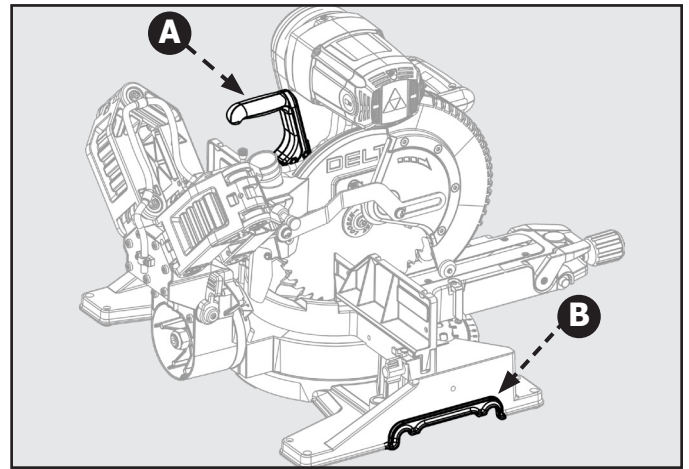

Figure 5
For transportation use the included carry handle (A) as shown in Fig. 5. You may also lift using the cast-in handle cut-outs (B) on both sides of the saw base as shown in Fig. 5.
1. Insert one of the support extensions (F) to the underside of the base at the cast-in handle cut-outs (B) shown in Figure 5.
2. Make sure support extension (F) is flush with the base and inserted into the rounded slots of the cut-outs (B). The rivets (G) are used to ensure the support extension does not slide out of the base during use. Ensure these rivets are positioned on the inside of the base.
3. Place the extension clamp (E) onto the support extension and the screw that is pre-attached to the base.
4. Once the extension clamp (E) is in place, screw the M8 hex nut provided (D) onto the screw.
5. Tighten the nut (D) with an M8 hex wrench to fully secure the support extension.